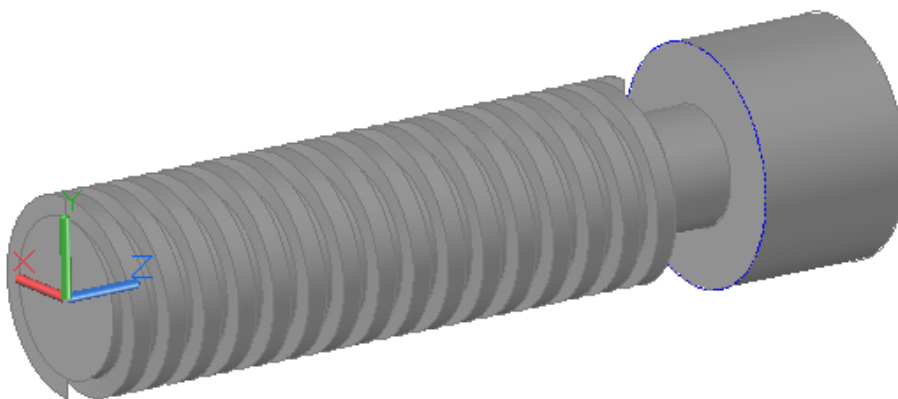

Figure Step 21A
Step 21 Using what you just learned, orbit the model, relocate the UCS and extrude a 1 inch diameter circle 0.5 inches in the negative Z direction. (Figure Step 21A, 21B, and 21C)